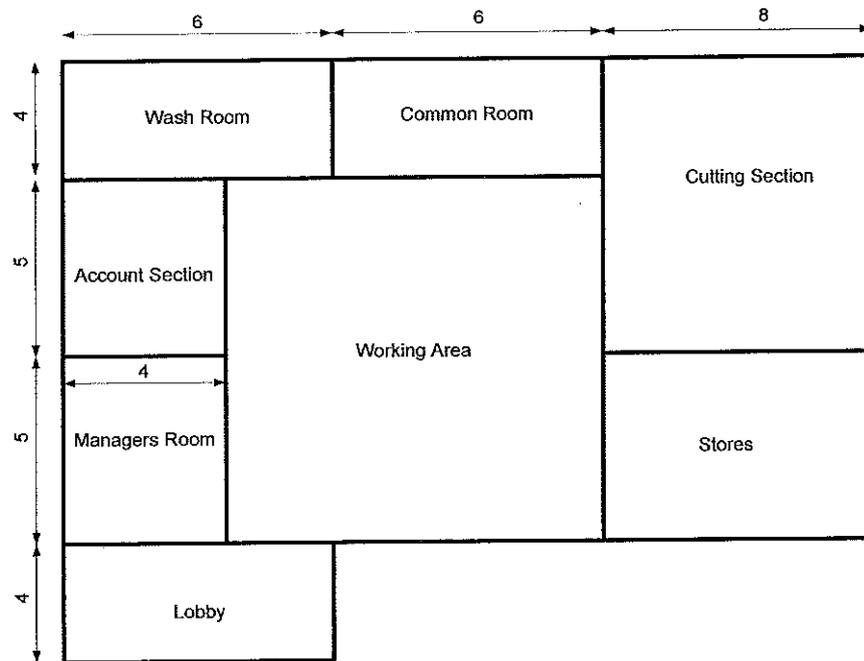

Figure Q7a - Factory Layout
7. Figure Q7a shows the layout of a Garment Factory with all dimension in meters. Building height is 4 m with white walls. 36 W LED tube light fitting (T5 Instant fitting) having 5200 lumen output is proposed to be used as the light fitting. Photometric data of for fixing of light fitting are given in Table Q7a and Table Q7b. Design a lighting scheme for the given building with lighting layout by Filling the Table Q7c as required. Clearly state any assumption you made during calculations. [16 marks]